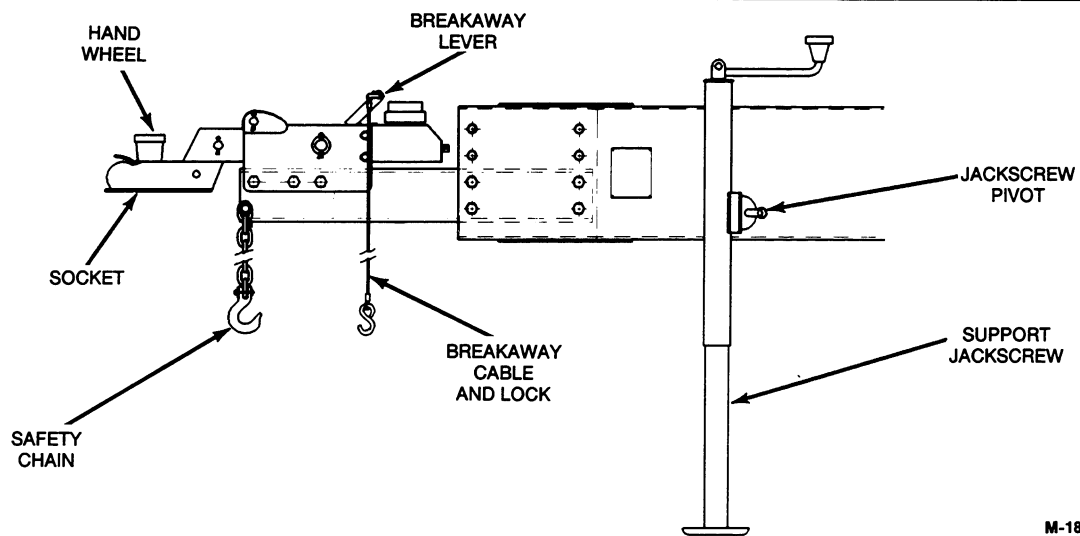

FIGURE 3-2. QUIET SITE TRAILER TONGUE
This procedure begins with the trailer tongue jacked up on its supportive jackscrew (see Figure 3-2).
5. Connect the breakaway S-hook to a secure point on the towing vehicle (one of the safety chain hook locations may be used). Should the breakaway be accidentally applied while unhitching, pry the spring clip out of the notch to release the lever (see Figure 3-2).